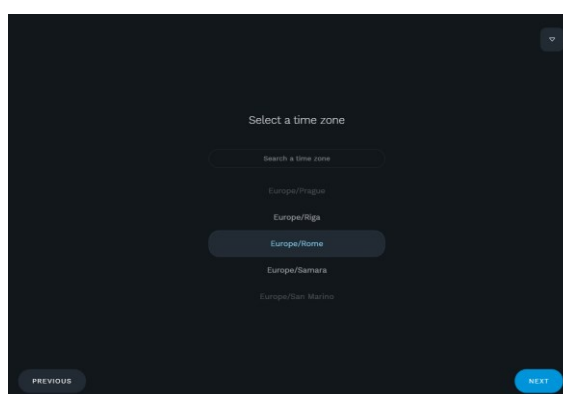

Fig. 16 – Time zone
5. Set the current time zone (Fig. 16). An initial time zone is suggested according to the selected country.